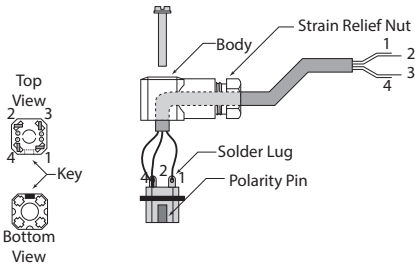

Figure 13: Wiring pinouts
- 3. The connector has four solder lugs labeled 1, 2, 3 and 4. Soldering wires to the terminals first requires disassembly of the connector as shown in *Figure 13*. The specific wiring pinouts for each style latching switch are shown in *Figure 13*.